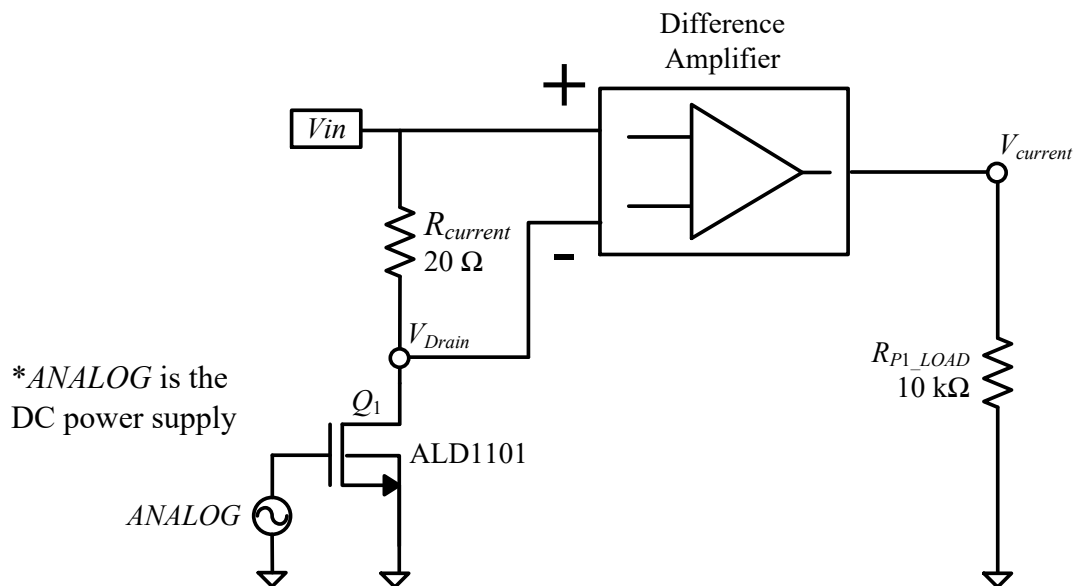

Fig. 15: MOSFET I_D vs. V_{DS} characteristic measurement circuit.
- E3 Now adjust the circuit as shown in Fig. 15 to characterize I_D versus V_{DS} . Set *ANALOG* to a DC power supply. This connects the DC power supply to the gate of Q_1 in order to independently control V_{GS} . **Set the DC power supply (*ANALOG*) to 0 V before connecting to the MOSFET to prevent damaging the MOSFET.**